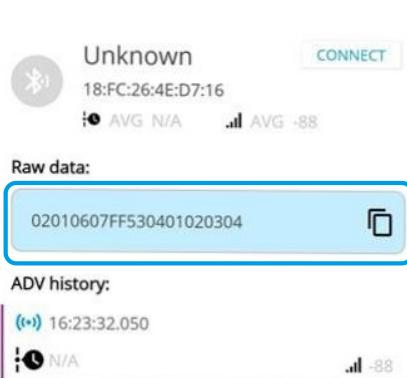

Figure 2.12: See Beacon data in Qorvo Connect
7. Tap on the device with the matching address and verify the advertising data. See figure 2.12.